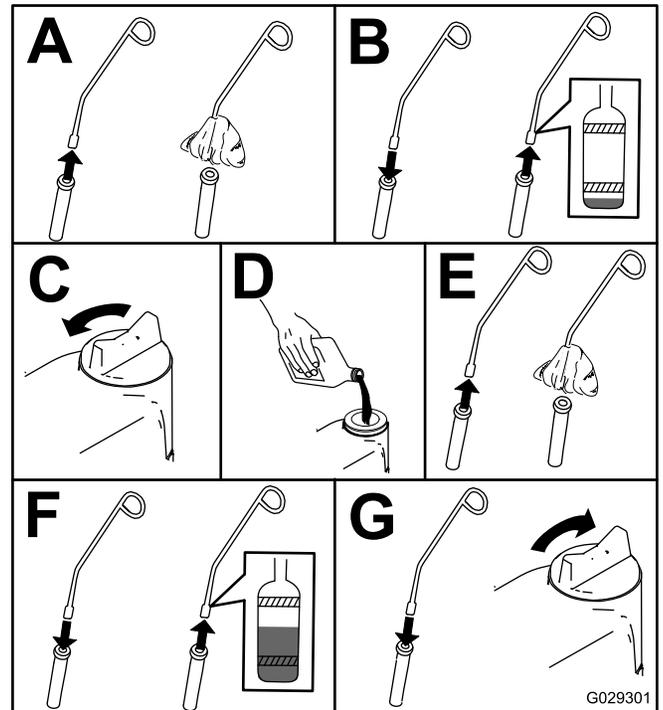

Figure 47
3. Check the engine-oil level as shown in Figure 47.